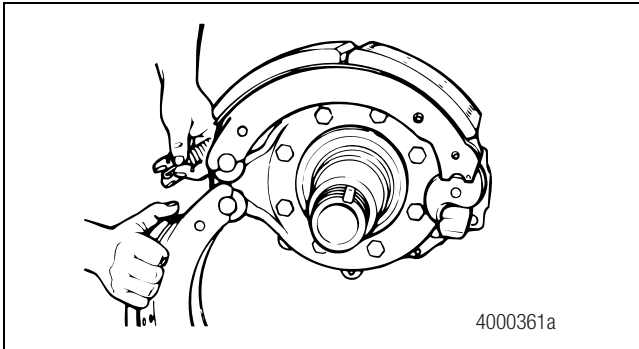

Figure 3.19
3. Place the upper brake shoe into position on the top anchor pin. Hold the lower brake shoe on the bottom anchor pin. Install two new brake shoe retaining springs. Figure 3.19.